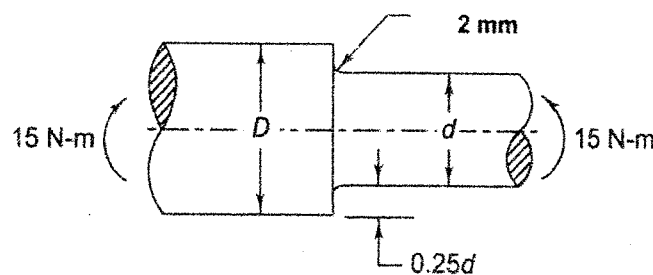

Fig.1
4. A round shaft made of a brittle material and subjected to a bending moment of 15 N-m is shown in Fig.1. The stress concentration factor at the fillet is 1.5 and the ultimate tensile strength of the shaft material is 200 N/mm². Determine the diameter d , the magnitude of stress at the fillet and the factor of safety.